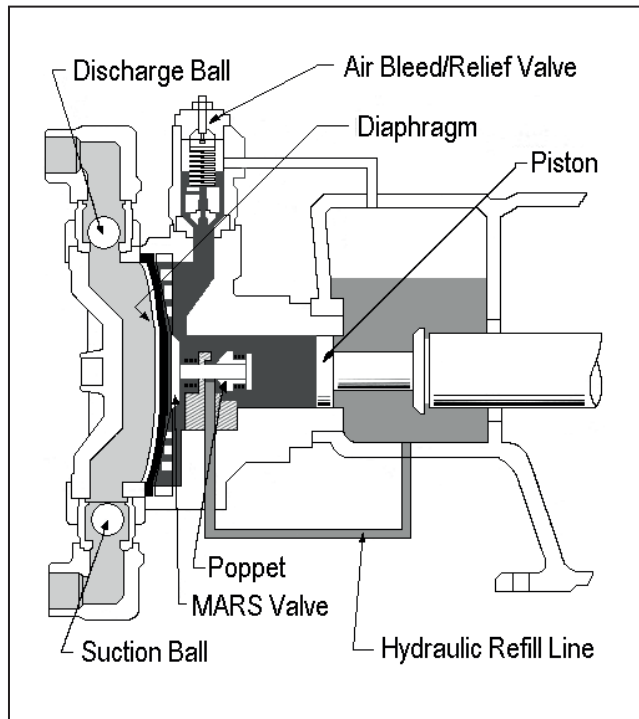

Figure 1. Principle of Operation-Suction.
1.3 PRINCIPLE OF OPERATION *FIGURES 1 AND 2*
All HPD liquid ends have a built in relief valve that allows hydraulic fluid to return to the hydraulic fluid reservoir if excessive pressure builds up in the discharge line. This effectively stops the pump from pumping, since the forward stroke of the piston will not displace the hydraulic fluid and force the diaphragm to flex. Please read "Principle of Operation" and see *Figures 1 and 2* for more information.